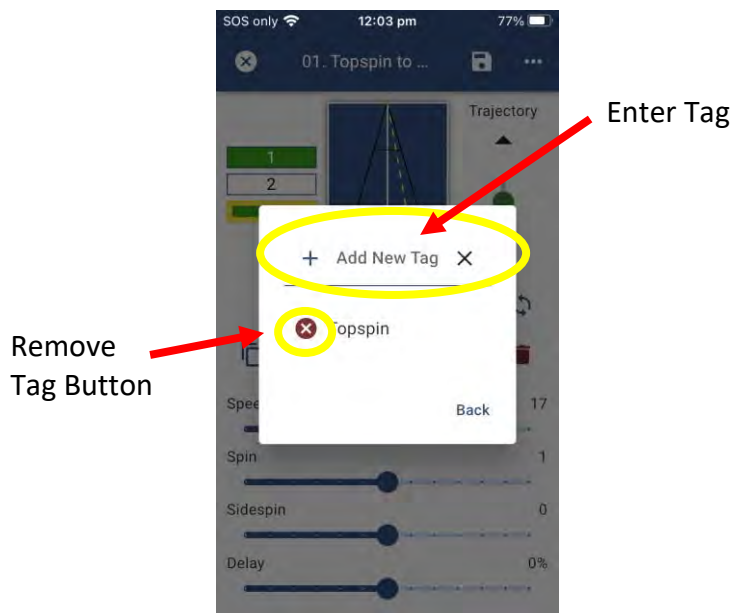

Figure 3-29
5. Type in the Tag word of your choice. You can add over 50 tag words as you like to describe a Drill. (Figure 3-29)
6. To Remove tags, touch the Remove Tag button. (Figure 3-29)